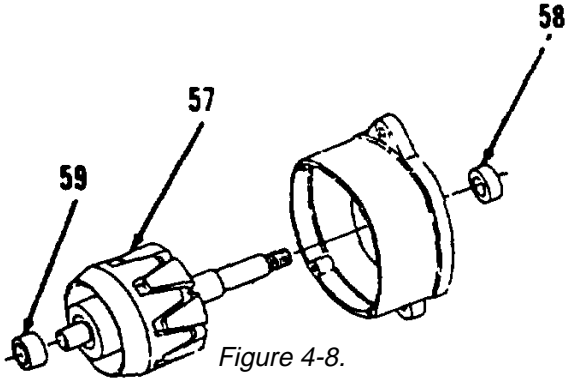

Figure 4-8.
- 30. Using a suitable press, remove rotor (57, Figure 4-8).
- 31. Remove collar (58).